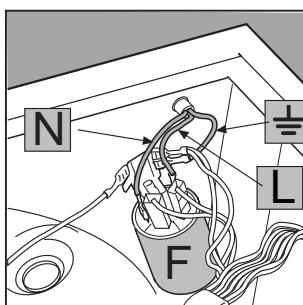

Fig. 4
- Disconnect the wires from the radio interference suppressor **F** [fig. 4] taking care as to their position (**Blue=N** wire; **Brown=L** wire) leaving the earth wire until last **±**.